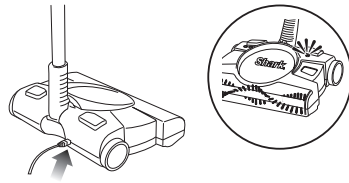

Fig. 4
- 2 Insert the charger plug into the hole on the back of the unit. Plug the charger into a wall outlet. The light next to the power button will illuminate when the unit is charging. If the unit is plugged in and the light is not illuminated, press the power button once. The light should now be illuminated indicating that the unit is charging. The light will turn off once the charge is completed. (Fig. 4)